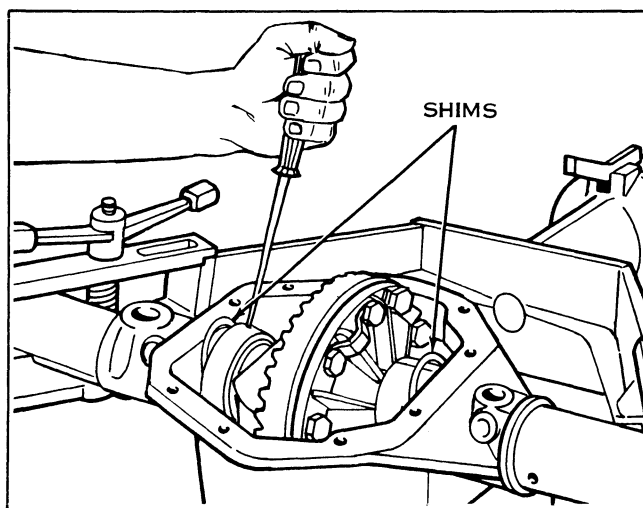

Figure 2-19. Adding Shims
19. Place drive gear and differential case assembly, bearing cups included, in carrier. Place bearing caps (6) in their respective positions, align identification marks, with screws (5) finger tight.
20. Move drive gear into drive pinion and, from shim requirements as determined in Step 9, place shims (12) between cup and carrier as shown in Figure 2-19. Force them in both sides so as to use total amount and have gear rotate with no backlash.